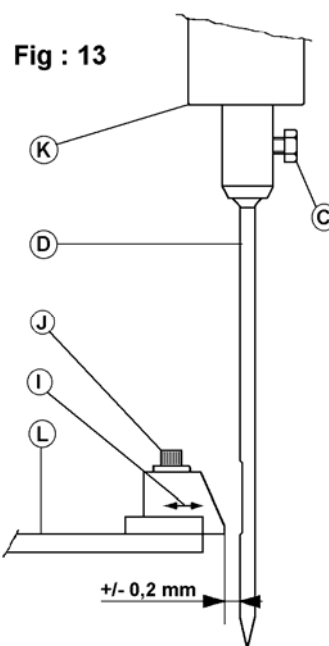

Fig : 13
Adjust the distance between needle guide (I) and needle (D). See Fig : 13.
Tighten the needle guide back again into its holder (L) after the correct distance has been set. See Fig: 13.